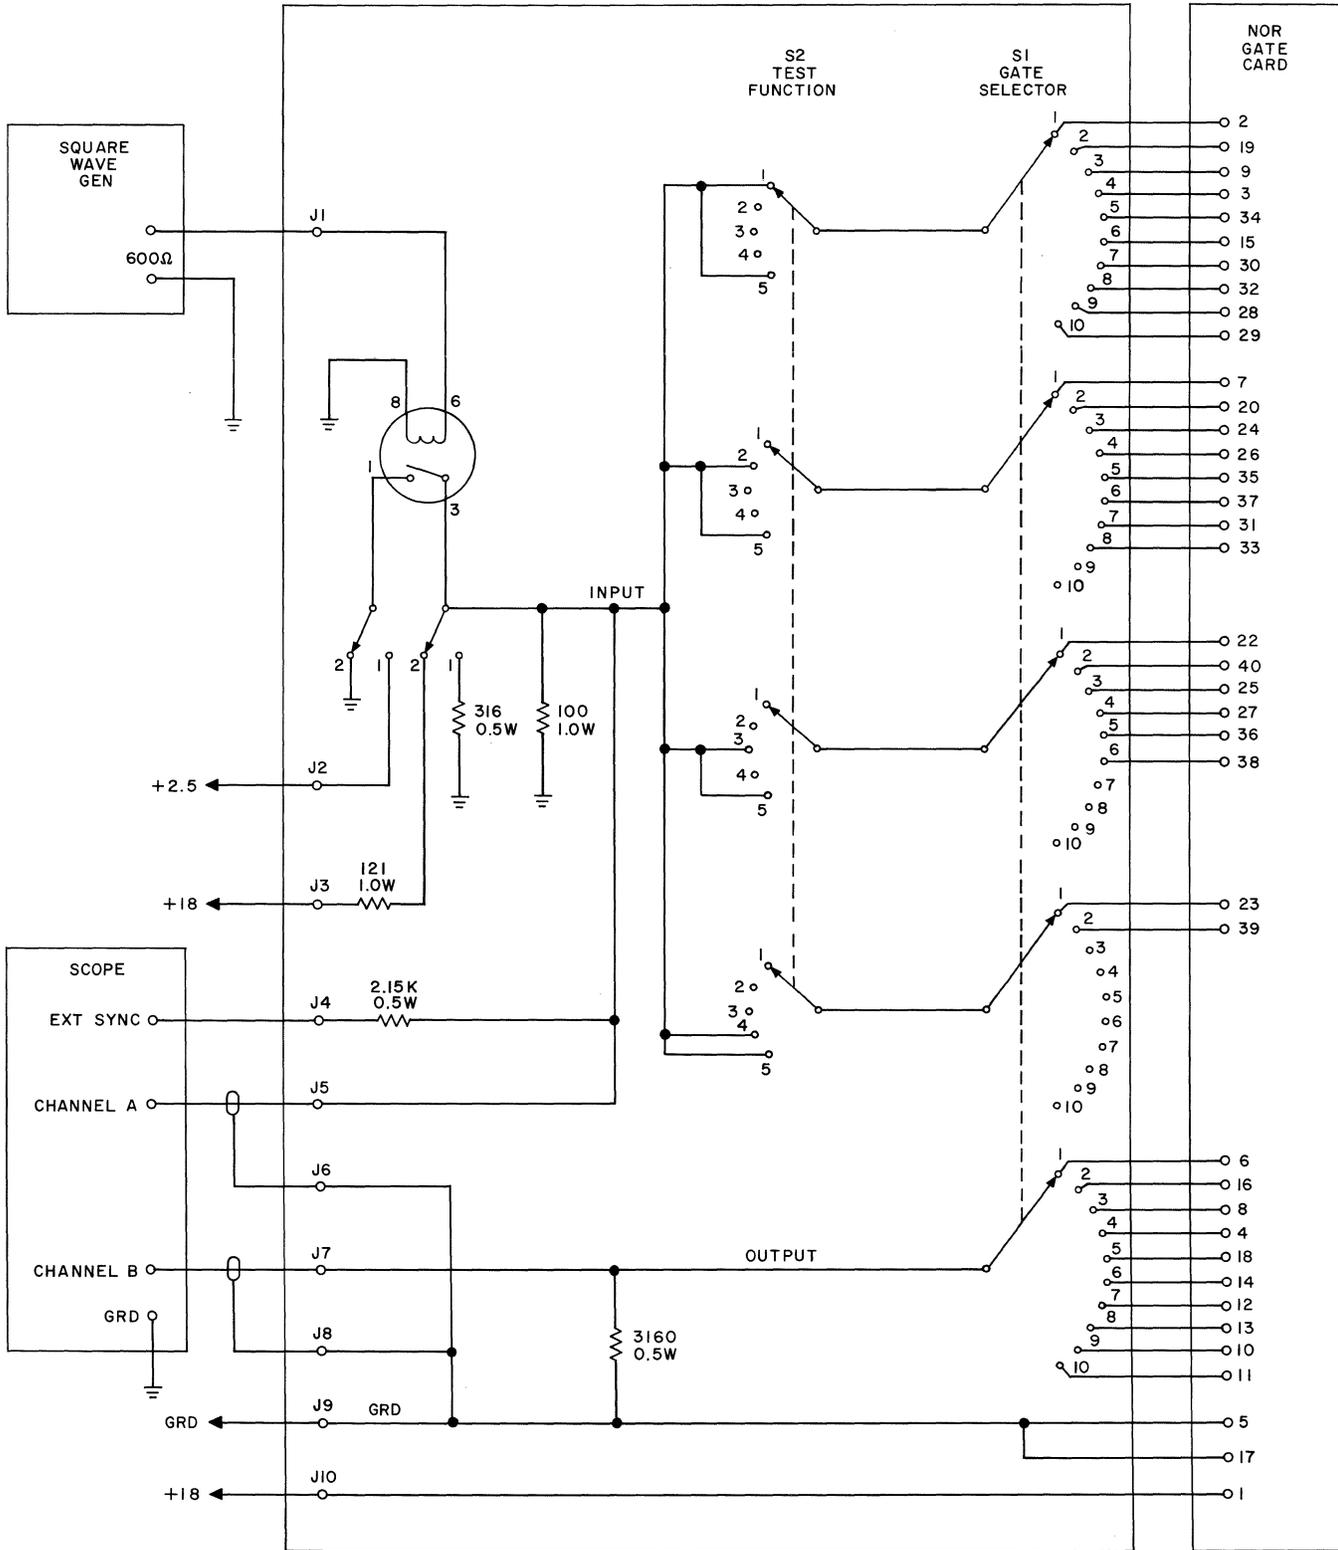
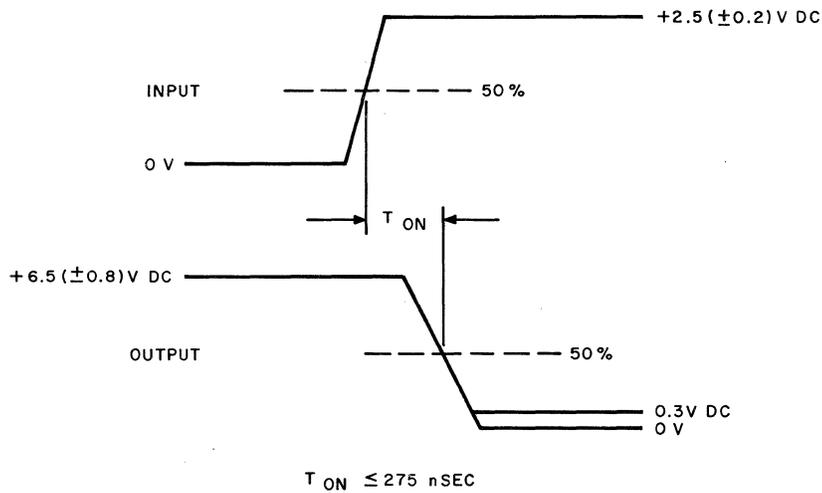

Fig. 3 — NOR Gate Test Set
Fig. 4 — NOR Gate Test
1. — NOR gate test set such as shown in Fig. 3.
- (1) Connect the test circuit as shown in Fig. 3.
- (2) Set the frequency of the square-wave generator between 40 and 50 cps.
- (3) Set the DPDT switch to position 1.
- (4) Set the GATE and TEST FUNCTION selector to position 1.
- (5) Set the EXT SYNC TRIGGER to the (+) positive position.
- (6) Rotate the GATE selector through positions 1 to 10. At each position the input and output step shall be as specified in Fig. 4.
- (7) Set the TEST FUNCTION selector to position 2. Rotate the GATE selector through positions 1 to 8. Observe output as in (6). Time base measurements need not be made.
- (8) Set the TEST FUNCTION selector to position 3. Rotate the GATE selector through positions 1 to 6. Observe output as in (6). Time base measurements need not be made.
- (9) Set the TEST FUNCTION selector to position 4. Rotate the GATE selector through positions 1 to 2. Observe output as in (6).